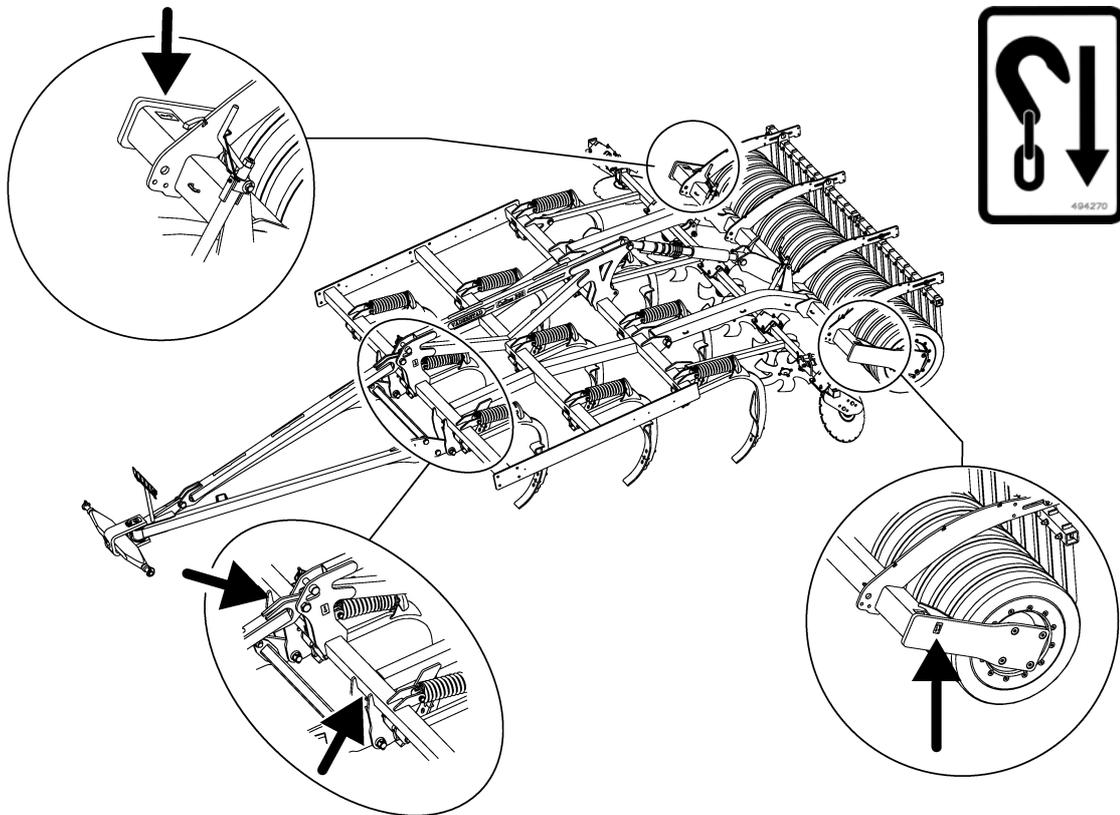

Figure 1.10
- 6 Secure the machine using suitable lashing equipment in accordance with applicable rules. The lashing equipment must be attached to the machine at the locations indicated by the decals; see "Figure 1.10".